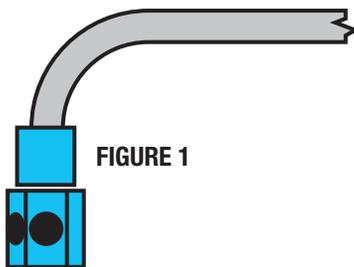
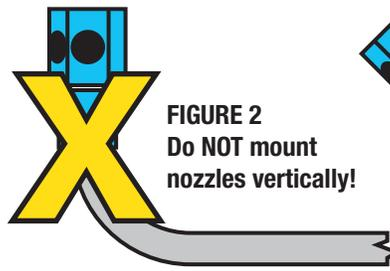

FIGURE 1
FIGURE 2
1. Nozzles should be mounted inverted as shown in Figure 1 to prevent foreign matter or dirt from collecting in port openings that may cause line blockage. Do NOT mount nozzles vertically as shown in Figure 2!